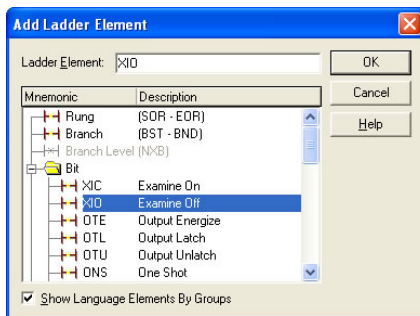

Figure 103: Adding an XIO Element
- c) Select the "XIO" element in the Bit folder. Refer to Figure 103.